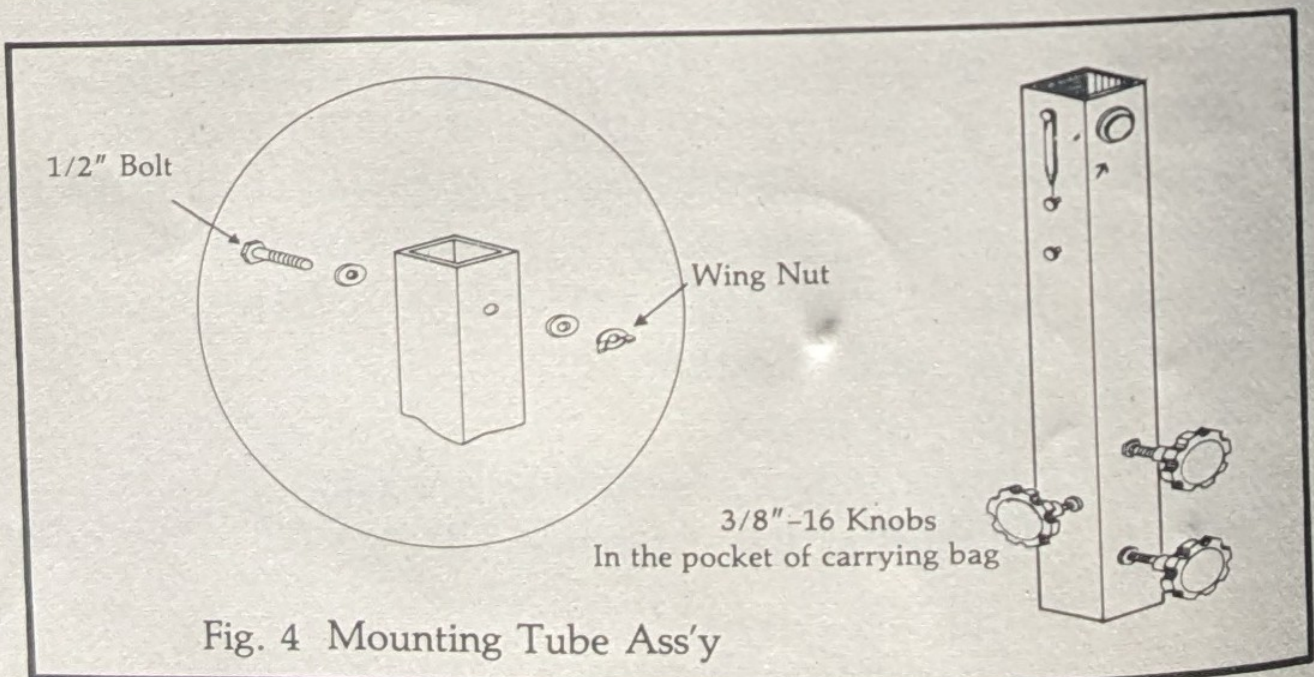

Fig. 4 Mounting Tube Ass'y
4. One(1) Mounting Tube Assembly (Fig. 4)